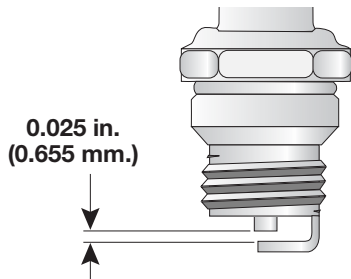

Fig. 56
3. Replace cracked, fouled or dirty spark plug. Set the air gap at 0.025 in. (0.655 mm.) using a feeler gauge (Fig. 56).